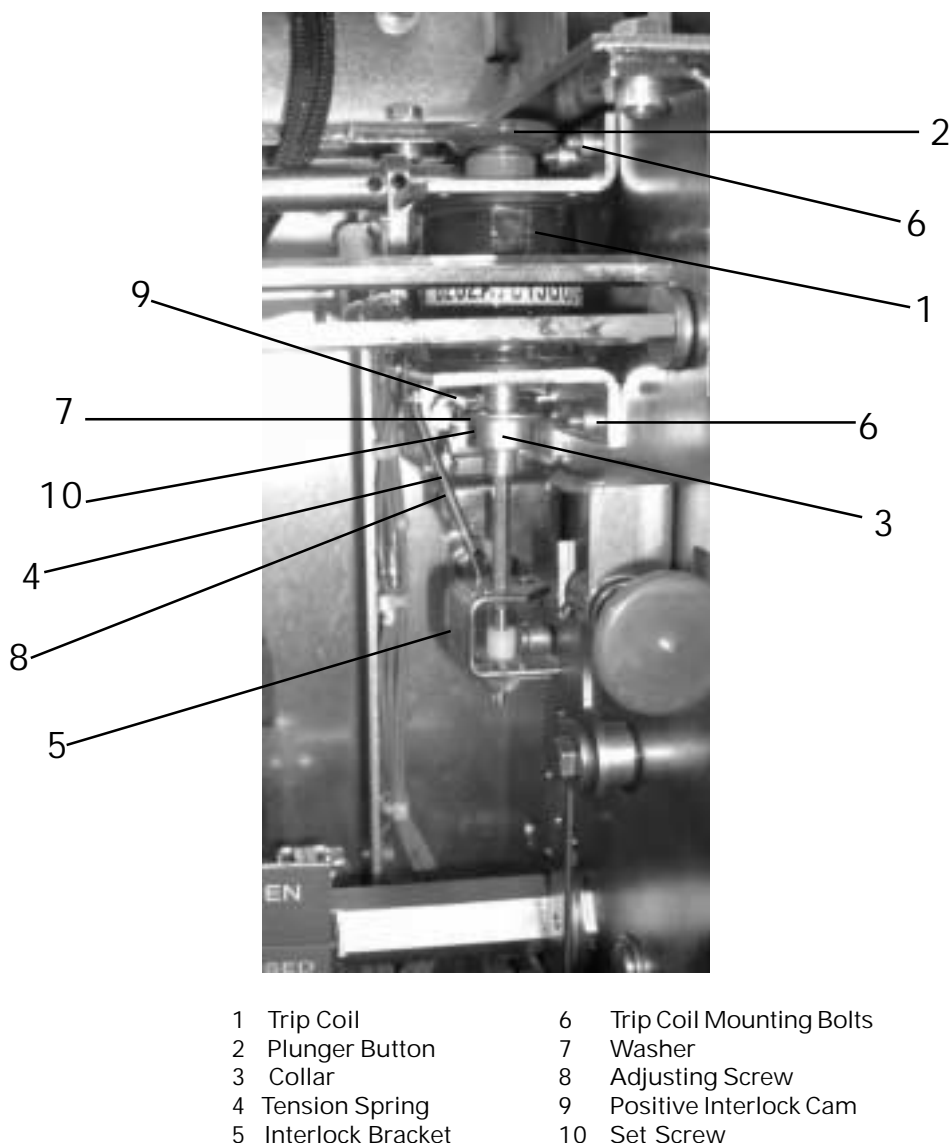

Figure 44. Trip Coil and Linkage (Closing Spring Removed)
Perform the operation in the following sequence: Reference Figure 44
6. Disconnect the trip linkage tension spring (Figure 44, Item 4).
7. Remove the four bolts (item 6) securing the trip coil brackets to the mechanism side plate. See Figure 44. Slide the coil assembly toward the front of the mechanism, freeing the plunger from the slotted positive interlock arm.
9. To install and secure the new trip coil to the mechanism side plate, reverse the above procedures and connect the leads with insulated butt connectors (Figure 44).
11. The collar and washer (Figure 44, item 3 and 7) must be positioned below the positive interlock cam, Figure 44 item 9, slightly touching.
12. The set screw in the collar (Figure 44, item 3) should then be tightened to the plunger extension. The adjustment screw (Figure 44, item 8) must not be readjusted.